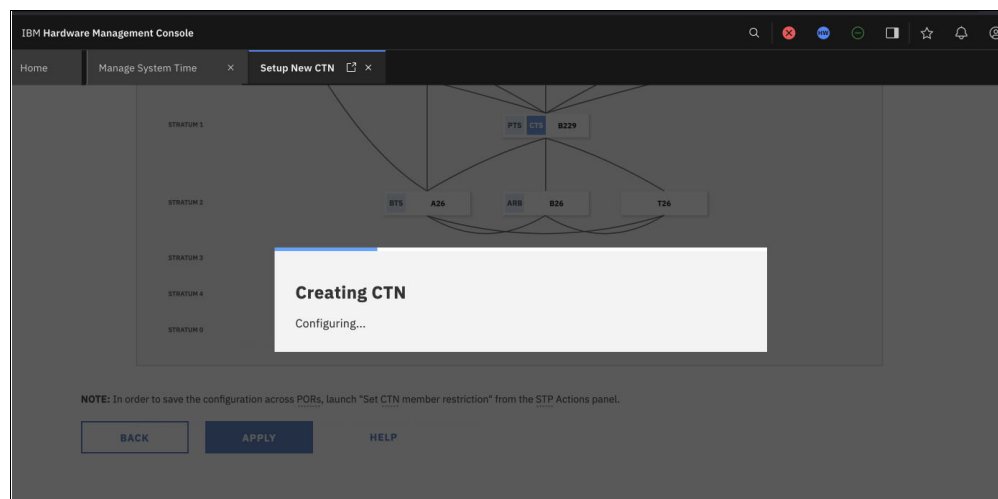

Figure 3-15 CTN configuration progress
13. After reviewing the proposed configuration, click **Apply** and wait for the configuration to finish, as shown in Figure 3-15.